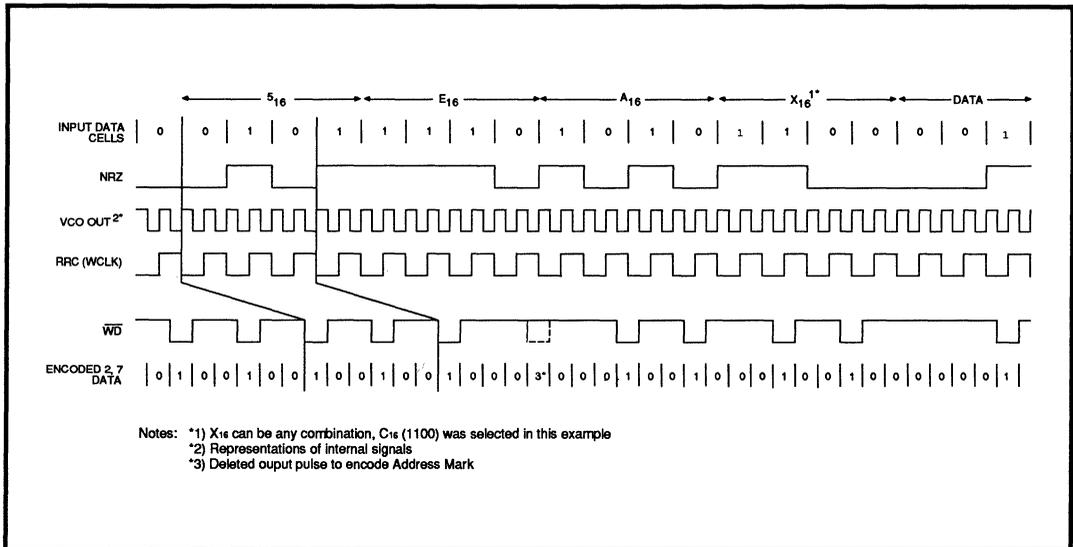

FIGURE 8: WRITE ADDRESS MARK GENERATION
In the Soft Sector Mode, when WRITE GATE (WG), transitions high and the NRZ input is held low, the SSI 32D5321 automatically generates the 3T (100) Preamble Field at the WRITE DATA (\overline{WD}), output. The 3T Preamble Field will continue to be generated until the first low to high transition on the NRZ line. As shown in Figure 8, the first low to high transition occurs with the second bit '1' of the 5₁₆ (0101) in the 5EAX₁₆ Address Mark generation pattern. To generate the Address Mark, the SSI 32D5321 automatically changes the '1' in the eleventh position (see note 3) of the 2, 7 RLL encoded sequence, to a '0'. This generates a pattern of seven zero's followed by two zero's. This unique pattern satisfies the 2, 7 RLL constraints, but will never occur during a normal encoding sequence. The x₁₆ of the 5EAX₁₆ Address Mark generation pattern can be selected, a 'C₁₆' (1100) was utilized in this example.